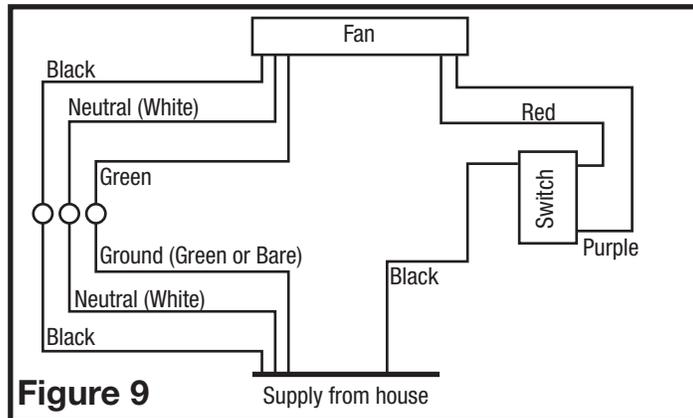

**Figure 8**
2. **Continuous Ventilation:** For two speed fans wired for continuous ventilation, connect the White wire of the fan to the White (Neutral) wire from the power source. Connect the ground wire from the house to the green wire from the fan housing. Connect the Black wire of the fan to the Black wire (Hot) from the power source. Using a properly grounded standard switch (not included) connect the Black wire from the supply to the switch. Connect the Red wire (light) from the fan housing to the other side of the top switch and connect the Purple wire (night light) from the fan housing to the other side of the bottom switch. Using a second properly grounded standard duplex toggle switch, connect the Hot Yellow wire from the fan to the input of the switch. Connect the second Yellow wire from the fan to the output side of the switch. Closing the switch will change from normal to high speed (Figure 8).